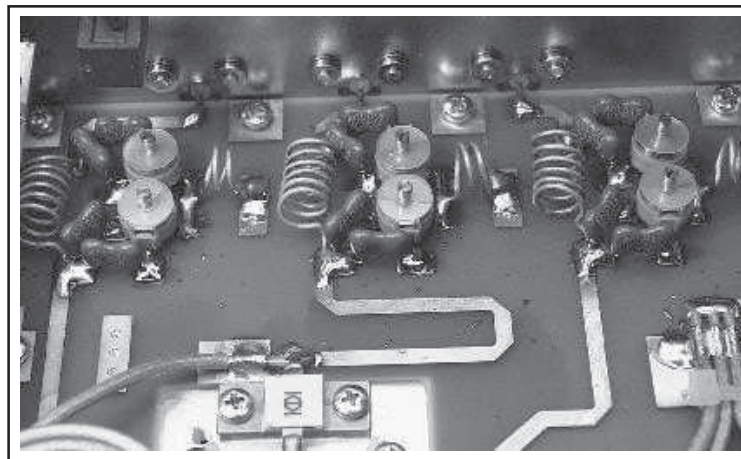

Figure 9.1
- 5) Regulate all the variable capacitors to their middle position (Figure 9.1).